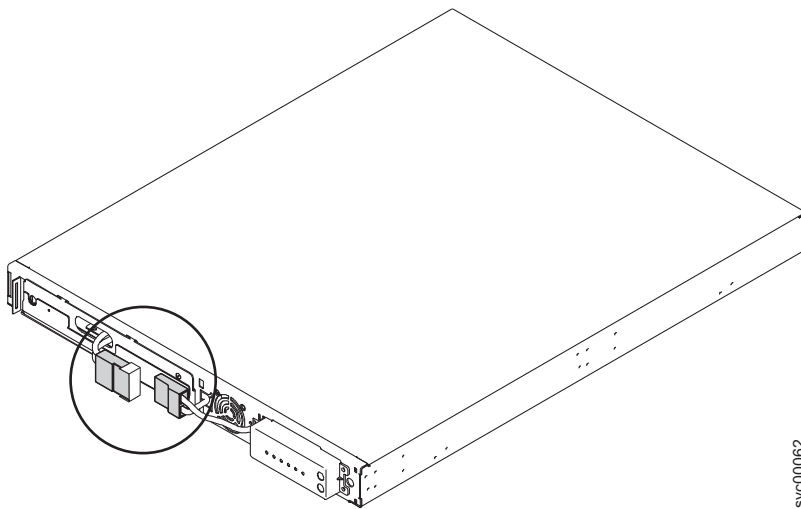

Figure 311. The 2145 UPS-1U internal battery connector with protective tape
7. After pulling the two connectors apart, cover the exposed battery connector (shown in Figure 311) with adhesive tape.